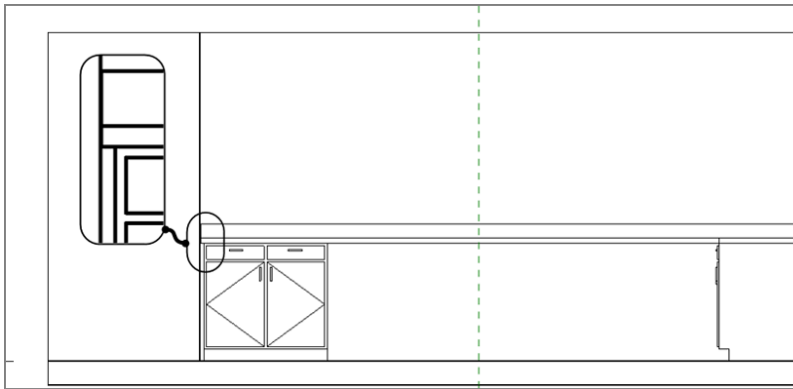

FIGURE 9.58: The 1" (25mm) overhang on the end
2. Add an interior elevation looking north, as shown in Figure 9.58.
8. Move the base cabinet so there is a 1" (25mm) counter overhang, as shown in Figure 9.58.